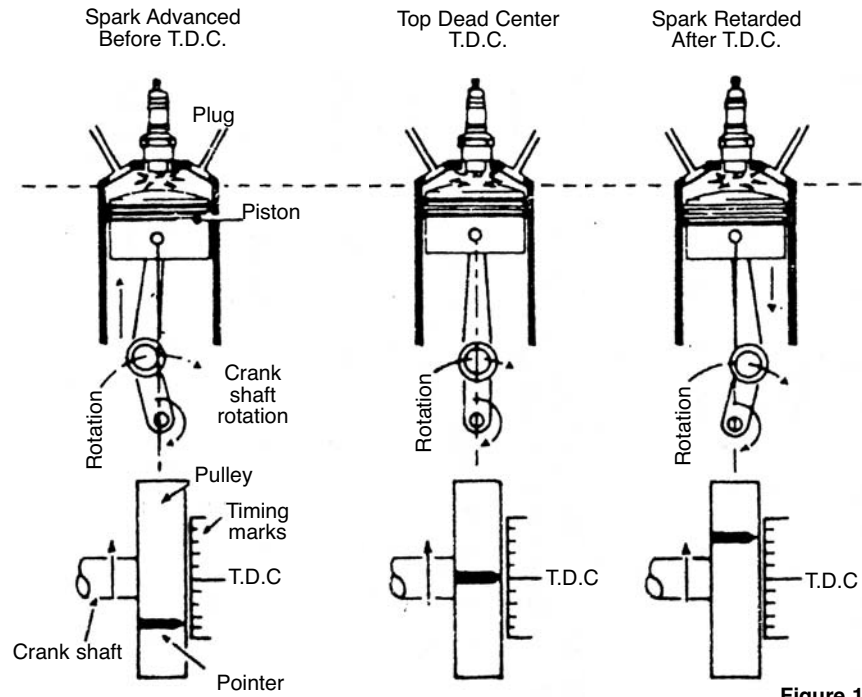

Figure 1
Timing is given in degrees Before Top Dead Center (BTDC) or After Top Dead Center (ATDC) in the manufacturer's specifications. In order to completely burn the air/fuel mixture in the car's engine cylinders, most timing is such that the spark occurs at a point several degrees before top dead center (for example 4° BTDC) to assure that full power of the explosion is obtained. See figure 1.
Two additional terms the engine manufacturers use when describing timing are "Advanced" and "Retarded" As shown in Figure 1, when the timing is advanced the spark will occur before the piston reaches the top of the engine cylinder (BTDC). On some late model cars equipped with various emission control devices, the timing is retarded so that the spark occurs after the piston has started down in the cylinder (ATDC). Engine timing is changed by adjustment of the ignition distributor.
In order to allow setting and adjustment of the engine timing, special “timing marks” are provided on each engine during assembly. In most cases, these marks appear on the engine vibration damper or fan pulley at the lower front of the engine. See figure 1. On some early engines, this mark was shown at the rear of the engine on the flywheel.
1. Locate engine timing mark (see figure 1) and use a rag to clean all grease and dirt from the mark and the pointer. It may help to use chalk or white paint on the marks to make them more easily seen.